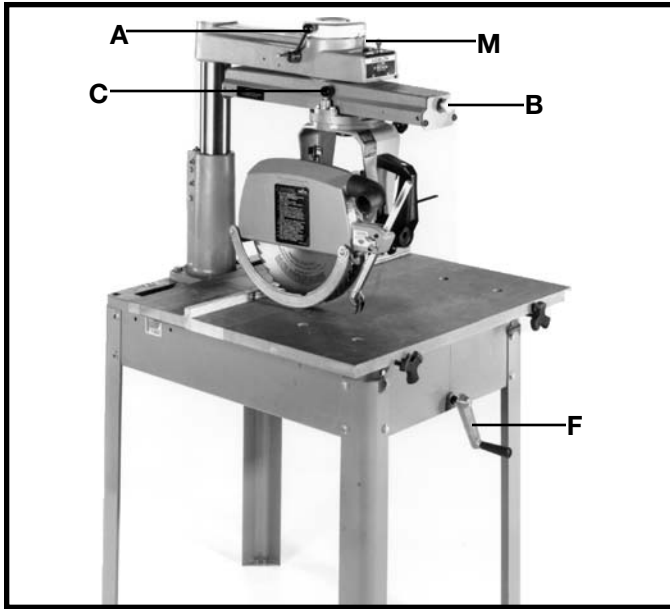
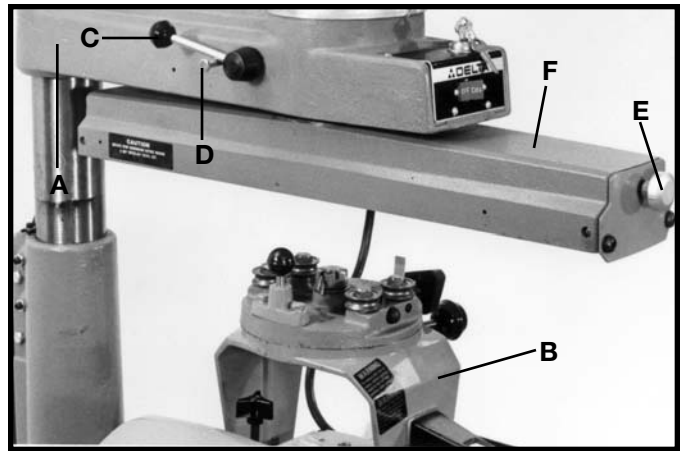
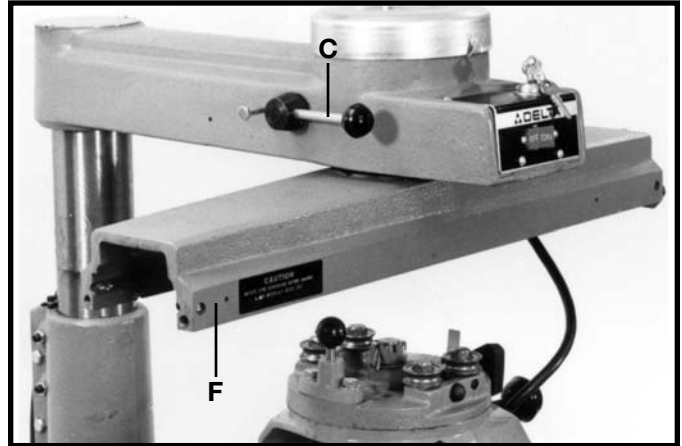

Fig. 2
Fig. 7
Fig. 8
A – TRACK ARM CLAMP KNOB. Controls swing of track arm for all miter cutting operations. Locks track arm at any angle for the full 360° rotation. To rotate track arm loosen clamp knob and rotate arm. The arm will stop at the 0° and 45° positions right and left. To move the arm past these points the track arm index knob (B) must be pulled out. (Fig. 2)
B – TRACK ARM INDEX KNOB. Locates 0° and 45° position, right and left, of the track arm. (Fig. 2)
C – YOKE INDEX LEVER. Locates each 90° position of the yoke for ripping or cross-cutting operations. When rotating the yoke the yoke clamp handle must first be loose. (Fig. 2)
F – OVERARM ELEVATING HANDLE. Controls the depth of cut in all operations. Turning the handle raises or lowers the overarm. (Fig. 2)
M – MITER SCALE. Indicates degrees left and right for setting track arm. (Fig. 2)
1. Raise the track arm assembly (A) Fig. 7, by turning overarm elevating handle (F) Fig. 2.
2. Remove packing material from around cuttinghead assembly (B) Fig. 7.
3. Push track arm clamp lever (C) Fig. 7, to the rear until it rests against stop (D) as shown.
4. Pull out on track arm index knob (E) Fig. 7, and rotate track arm (F) 90 degrees to the position shown in Fig. 8. Tighten track arm clamp lever (C) Fig. 8, by pulling it to front position.